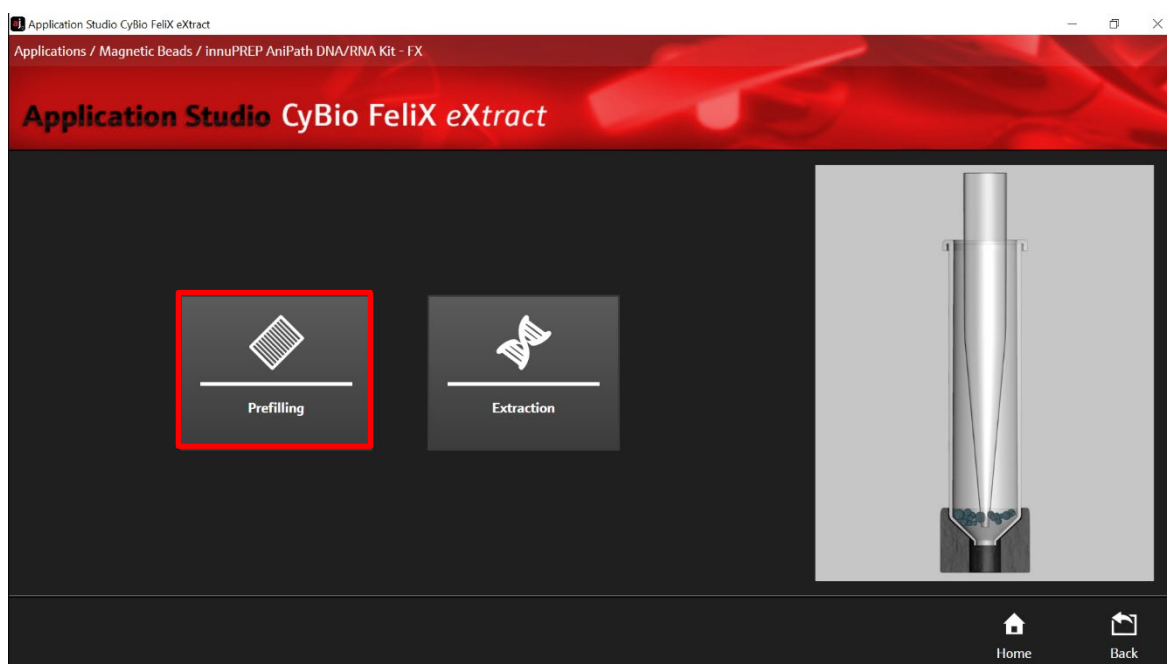

Figure 6: Routine selection in the Application Studio Felix eExtract: Prefilling.
18. Select “Prefilling” (→ see Figure 6).